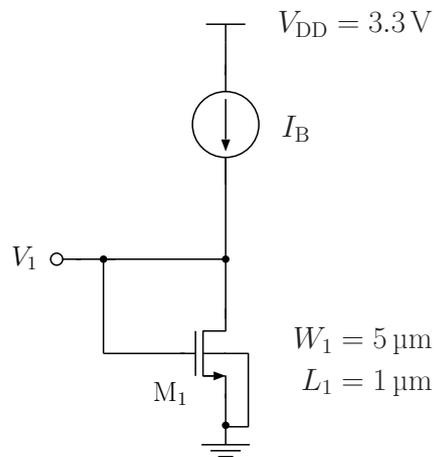
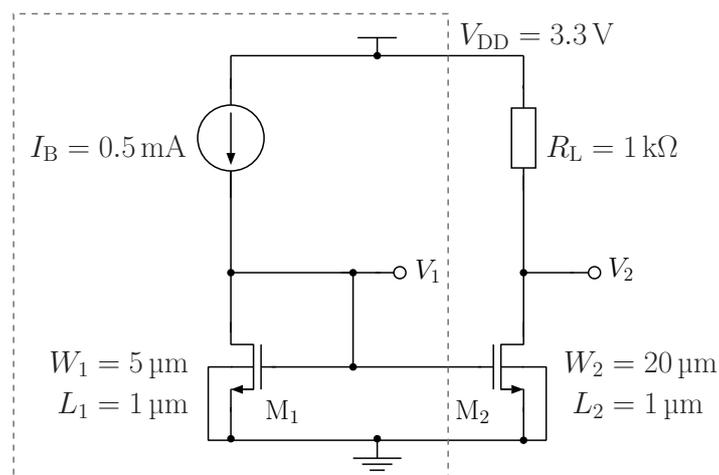

Figure 2: Simple diode-connected NMOS transistor.
Figure 3: Simple MOSFET current mirror.
Consider the diode-connected transistor shown in Figure 2 and answer the following questions:
- Is the transistor  $M_1$  in Figure 2 in saturation assuming  $I_B = 0.5$  mA?
An additional transistor  $M_2$  and a resistor  $R_L$  are added to the circuit in Figure 2 resulting in the circuit in Figure 3. Answer the following questions: